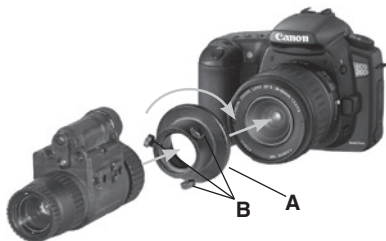
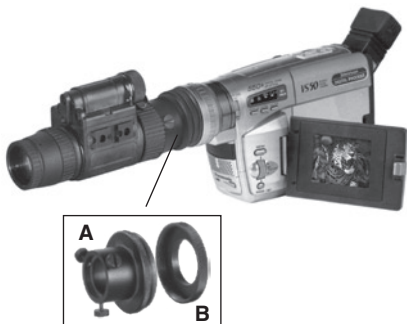

Figure 3.7
Figure 3.8
1. Screw Camera Adapter into the front lens of a photographic camera with thread M52x0.75 (Figure 3.7) or a video camera with thread M37x0.75 (use adapter ring, Figure 3.8, B) .
3. Connect the adapter (Figure 3.7, A) with the eyepiece and gently tighten three fixing screws (Figure 3.7, B) on the adapter.